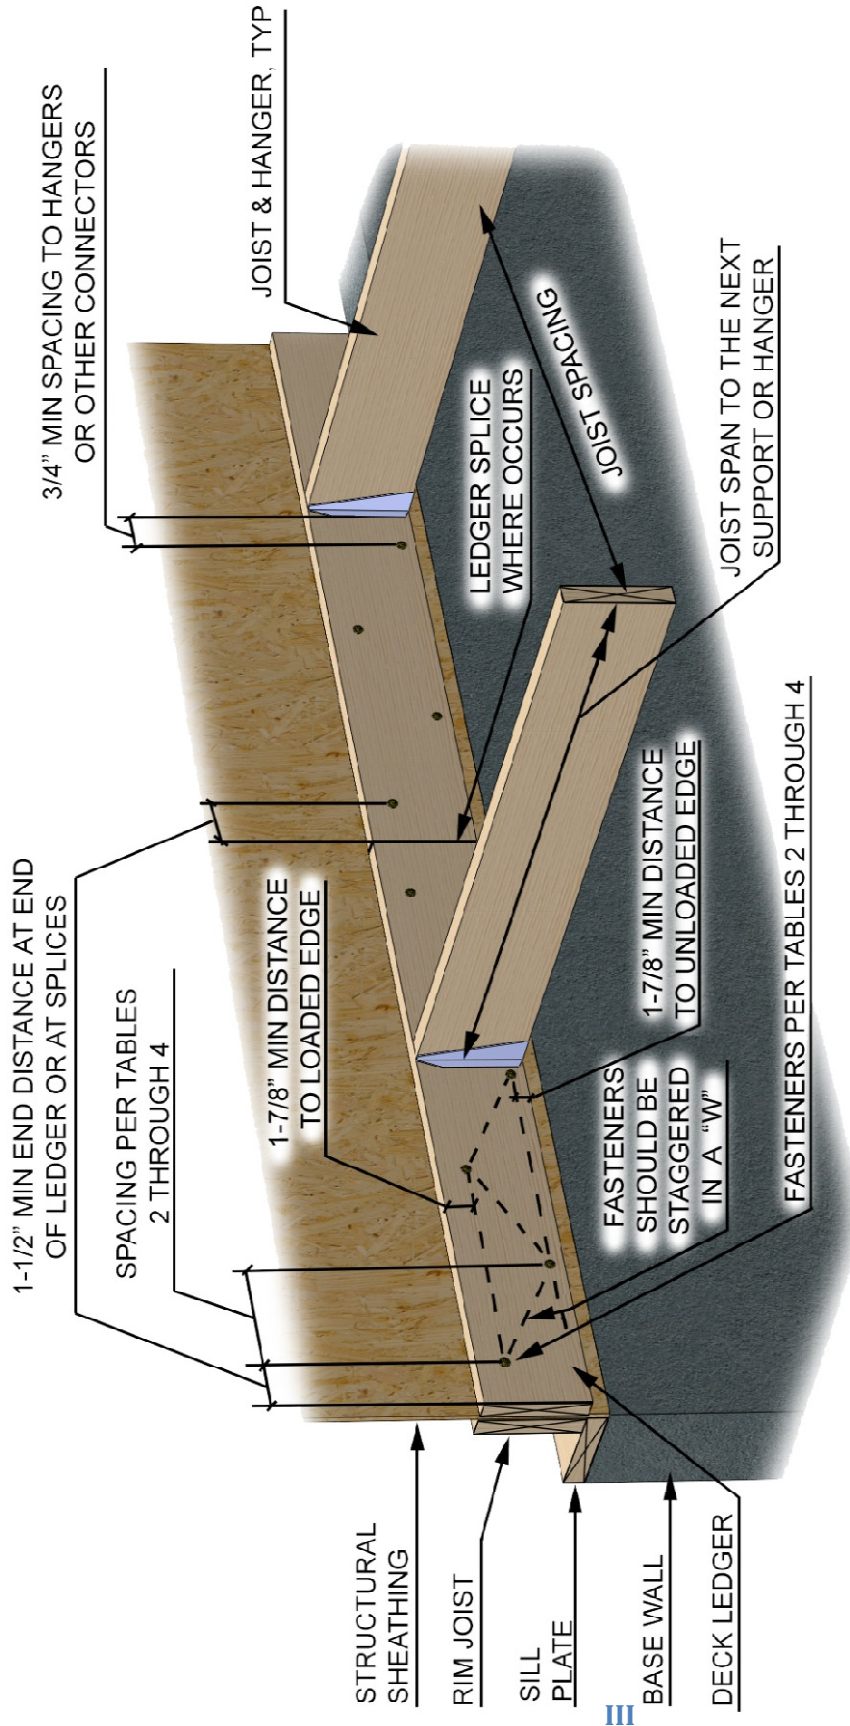

Figure 1
- Rim joist must be restrained for eccentric loading from deck ledger. Rim joist shall not be end-nailed to floor joists (not shown in Figure 1.)